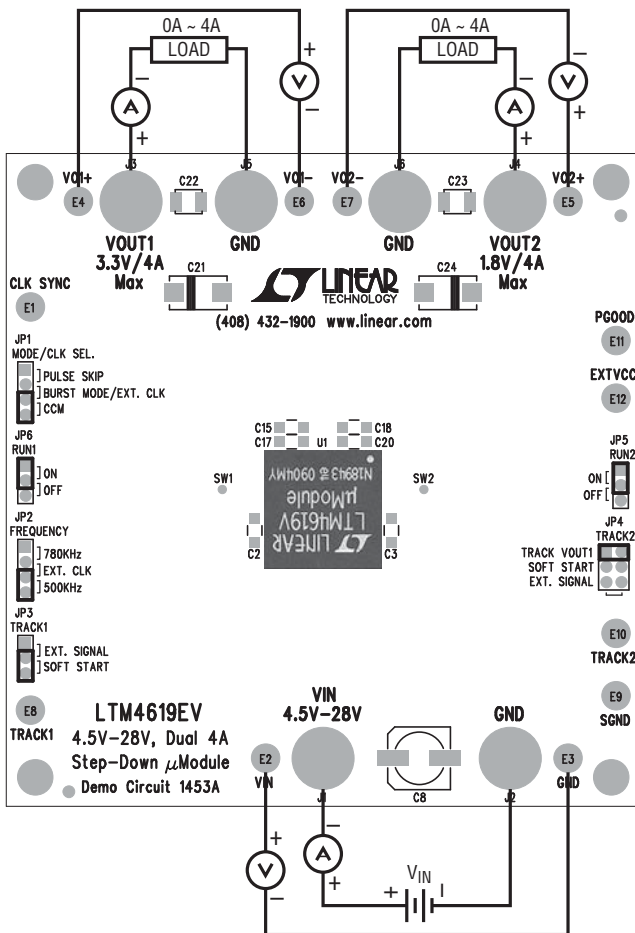

Figure 1. Test Setup of DC1453A
Demonstration circuit 1453A is an easy way to evaluate the LTM4619. If V_{IN} is always below 5.5V, stuff a 0Ω resistor at R16. Do not stuff R16 if V_{IN} is higher than 5.5V. Please refer to Figure 1 for proper measurement equipment setup and follow the procedure below:
2. With power off, preset the loads to 0A and V_{IN} supply to be less than 28V. Connect the input power supply, load and meters as shown in Figure 1.